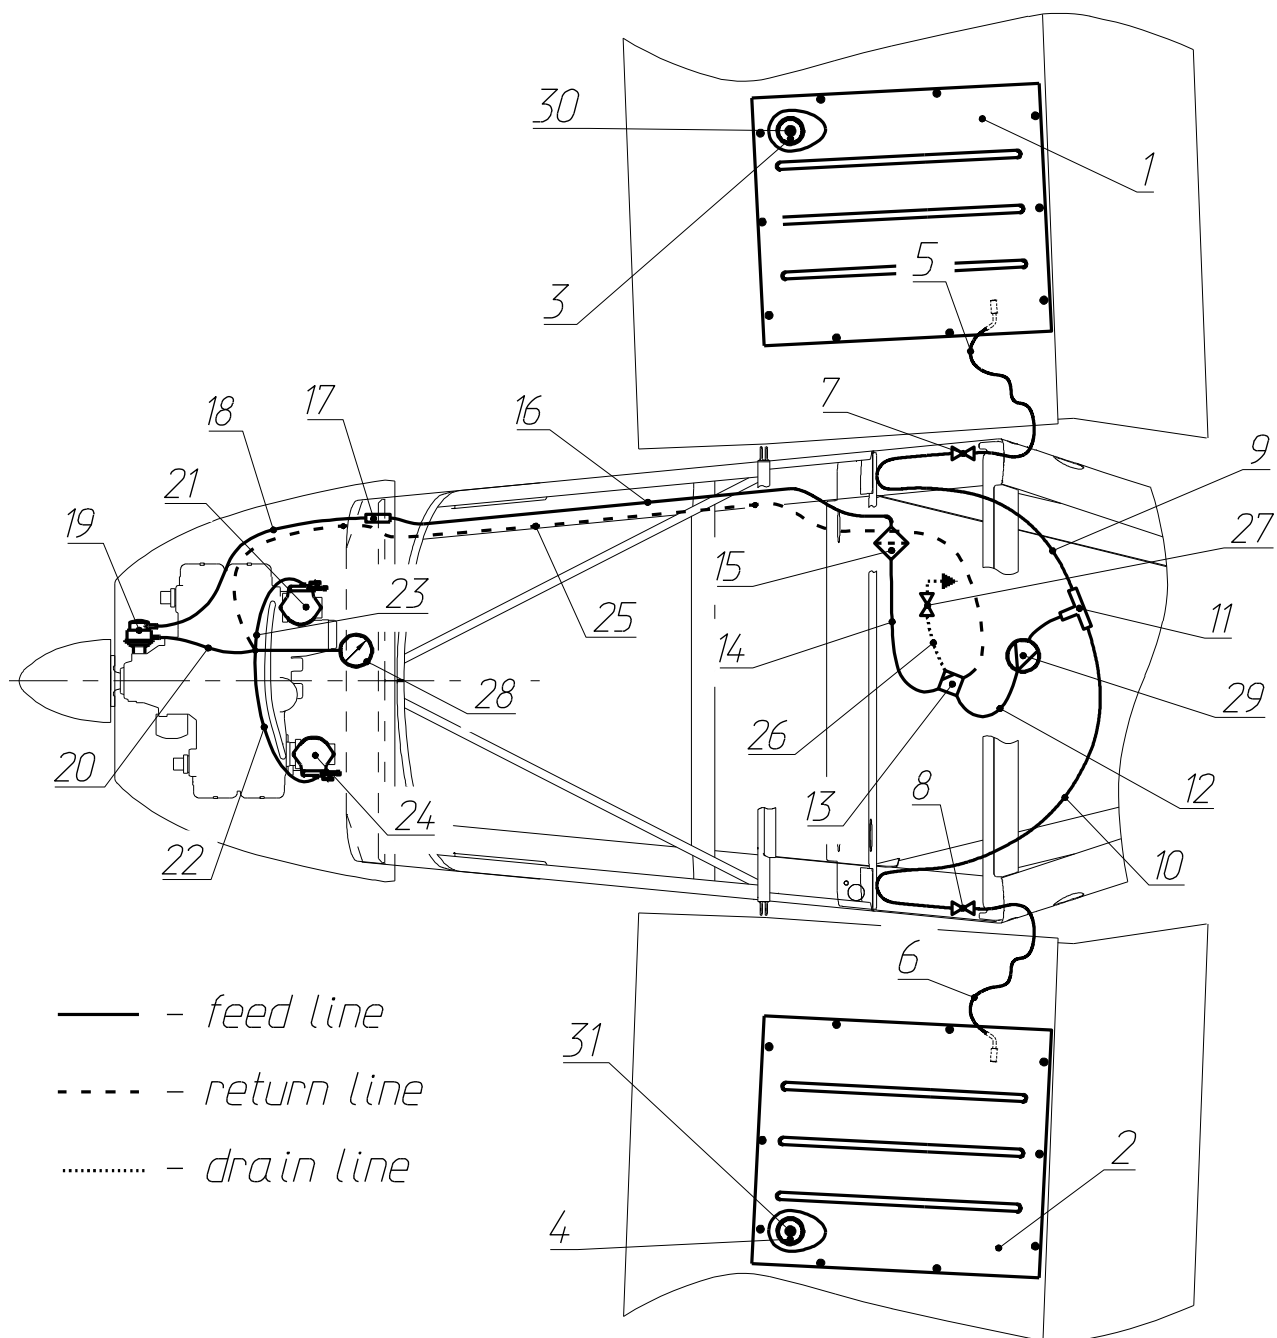

Fig. 3. Fuel system schematic
The fuel system (see **Fig. 3**) includes two wing fuel tanks (1,2), feed fuel lines (5,6,9,10,12,14,16,18,20,22,23), return line (25), two shut-off valves (7,8), fuel sediment collector (13), fuel filter (15), fuel pump (19), drain line (26) and drain valve (27). The fuel tanks are located at the wing root between the spar and aft web. The fuel inlet 3(4) is located at the front outboard corner of the tank. The inlet cover has vent fitting 30(31) connecting the tank volume free of fuel to the atmosphere. The fuel shut-off valves (7,8) are located on the vertical beams of the frame No.3, on the left and right sides respectively. The shut-off valve is open when its handle is set vertically and closed when the handle is set horizontally. The left and right fuel tank is connected with the fuel lines to the left and right fuel shut-off valve respectively. Further two fuel lines are joined into a single one with the T-connector (11). Then fuel comes to the sediment collector (13). The sediment collector is located behind the main landing gear beam on the bottom rear panel of the fuselage. The top outlet of the fuel sediment collector is connected to the fuel filter (15) located on the right side behind the main landing gear beam and can be inspected visually. The bottom outlet of the fuel sediment collector is connected with a fuel line (25) to the drain valve (26), located behind the main landing gear beam on bottom rear panel of the fuselage. The drain valve allows draining fuel through the hole in the bottom rear panel of fuselage. The valve handle is accessible outside fuselage. After the fuel filter the fuel line (16) runs through the main landing gear beam, seat beam along the right-hand side of fuselage to the frame No.1 where it is connected with bulkhead fitting (17) to the fuel line of the engine (18) that is connected to the inlet of the fuel pump (19) located on the right-hand side of the engine gearbox. The pump outlet is connected with the fuel lines (20,22,23) to the carburetors (21, 24). The excessive fuel is returned through the line (24) to the sediment collector (13). The fuel system may optionally contain the fuel pressure sensor (28) and fuel flow transducer (29) for monitoring of its functionality.